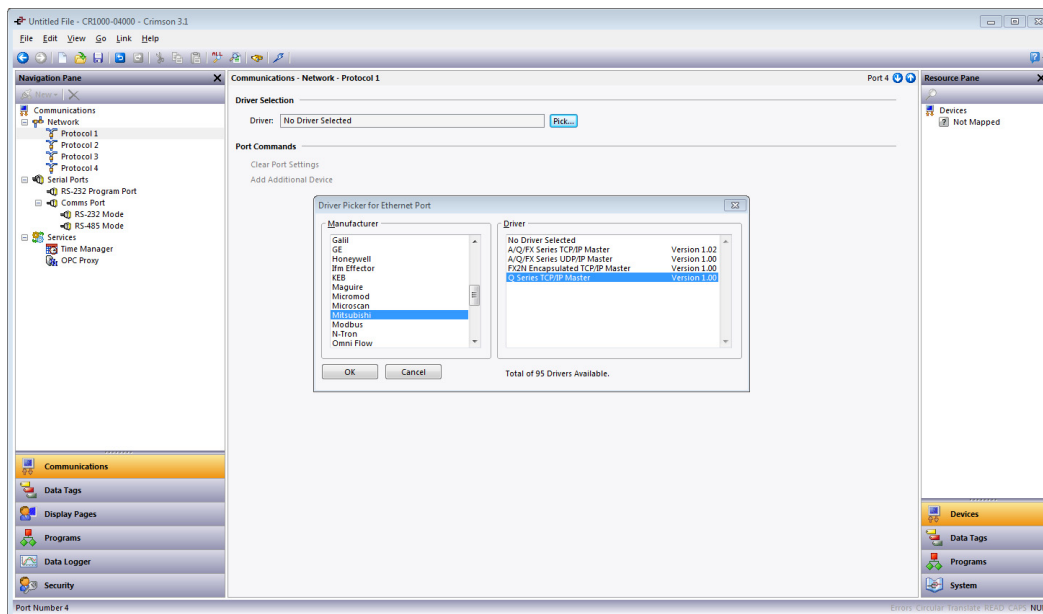

Figure 2.
1. Referring to Figure 2, go to the Navigation Pane and select the first available protocol; Protocol 1 in this example.